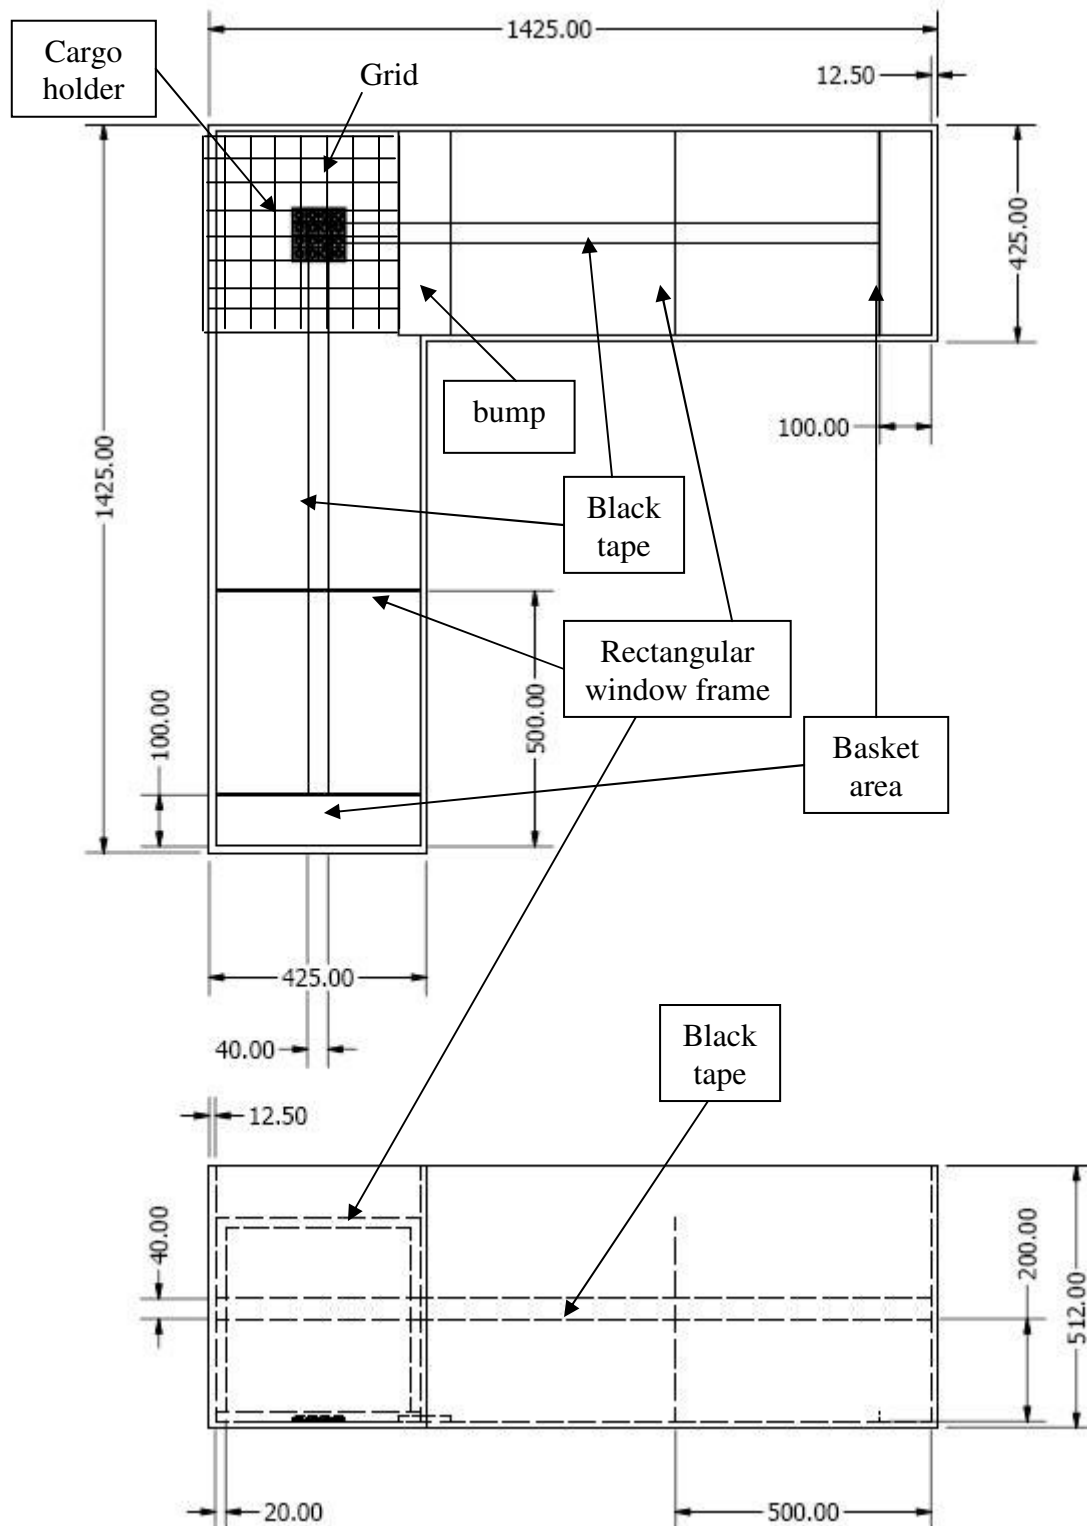

Figure 1: Tank Dimensions (in mm)
- 3.1 The game will be played in an L-shaped tank of dimension: 1425mm x 1425mm x 500mm. The tank has a glass of 12.5 mm thickness. See Figure 1 for details.
- 3.4 In the central area of the tank there shall be a cargo holder containing 16 objects arranged in a grid. This holder will be elevated from the tank floor by about 2 cm. See Figure 1 layout.